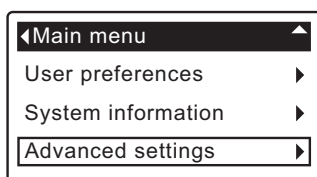

FIG. 50
1. From any of the rolling status screens, press the SELECT (O) button to display the **Main menu**.
2. Press the DOWN (▼) button to scroll through the menu options until **Advanced settings** is highlighted (See Figure 50).